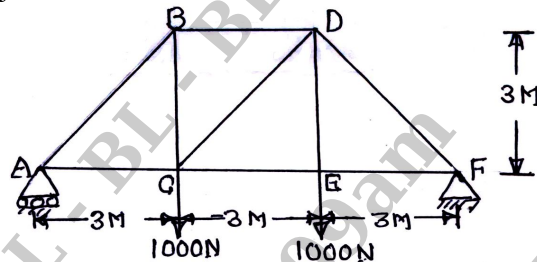

Fig.Q.6(c)
c. Find the support reactions and member forces for the pin jointed plane truss as shown in Fig.Q.6(c) by method of joints. Also tabulate the results. (13 Marks)